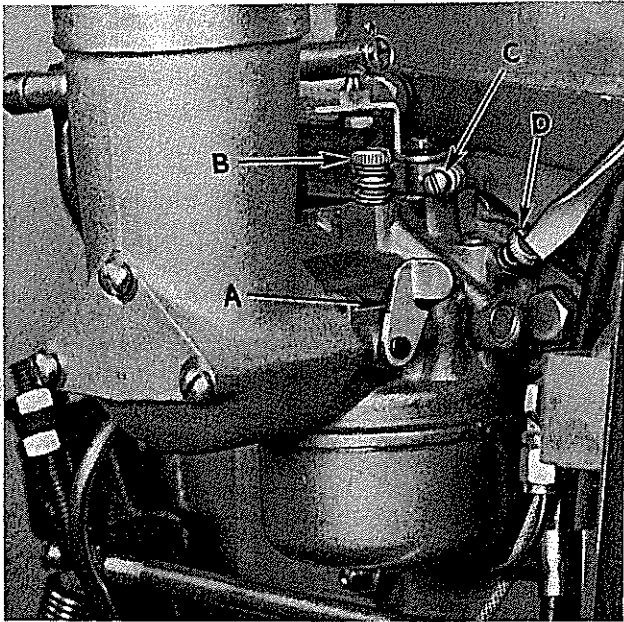

Figure 2
- Turn high speed needle (B, Figure 2) counter-clockwise two turns (from closed position) and start engine.
- Idle screw (D, Figure 2) adjustments should be made at the same time as the high speed adjustments, as each one affects the other.